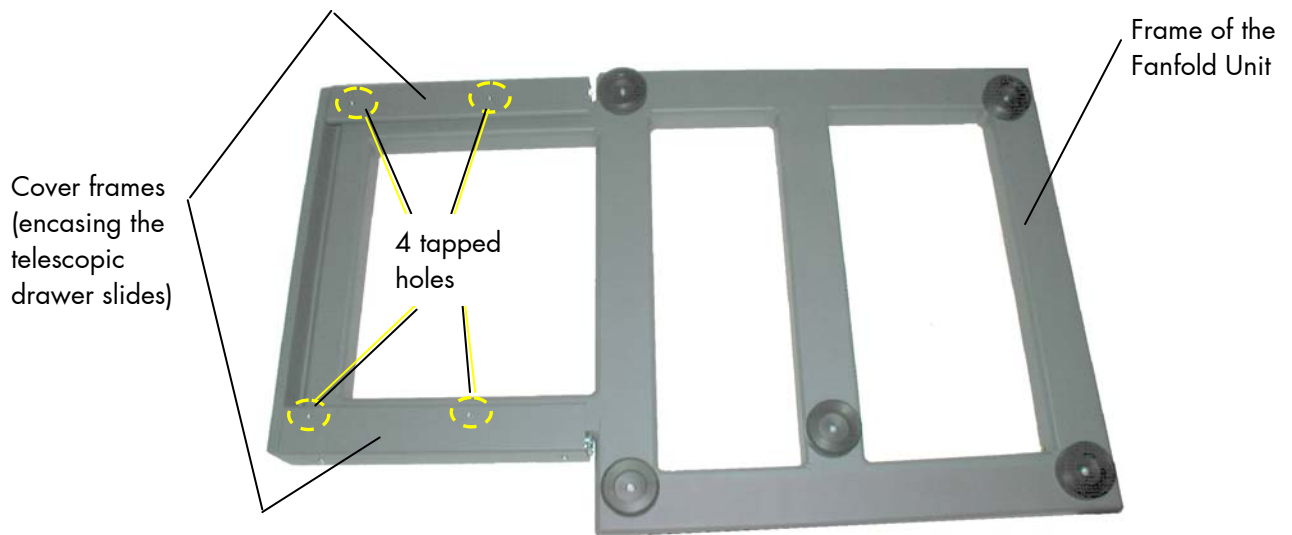

Fig. 3.1.a Frame of the Fanfold Unit placed on selected location
1. Locate the four tapped holes on the top surface of the two cover frames. (These frames encase the two drawer slides; see figure 3.1.a in the previous section.)